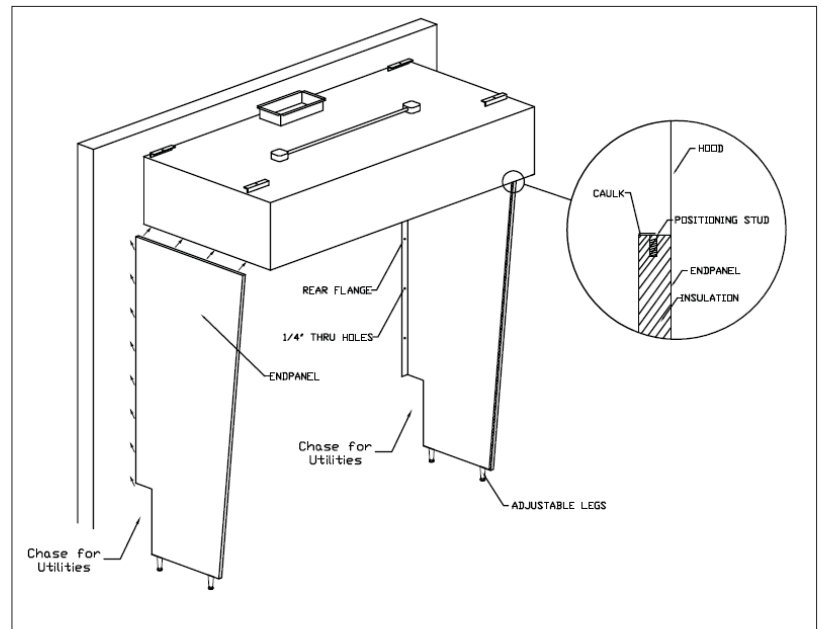

FIGURE 20
2. Position the end panel with the top located flush against the bottom of the hood end and the rear flange located flush against the rear wall and facing toward the interior of the hood. Studs on bottom of hood ends should align with slots on top of vertical end panel. **Refer to Figure 20.**
2. Slide the top flange behind the lower rear edge of the hood. Secure the bottom flange to the wall using stainless steel sheet metal screws. **See Figure 20.**